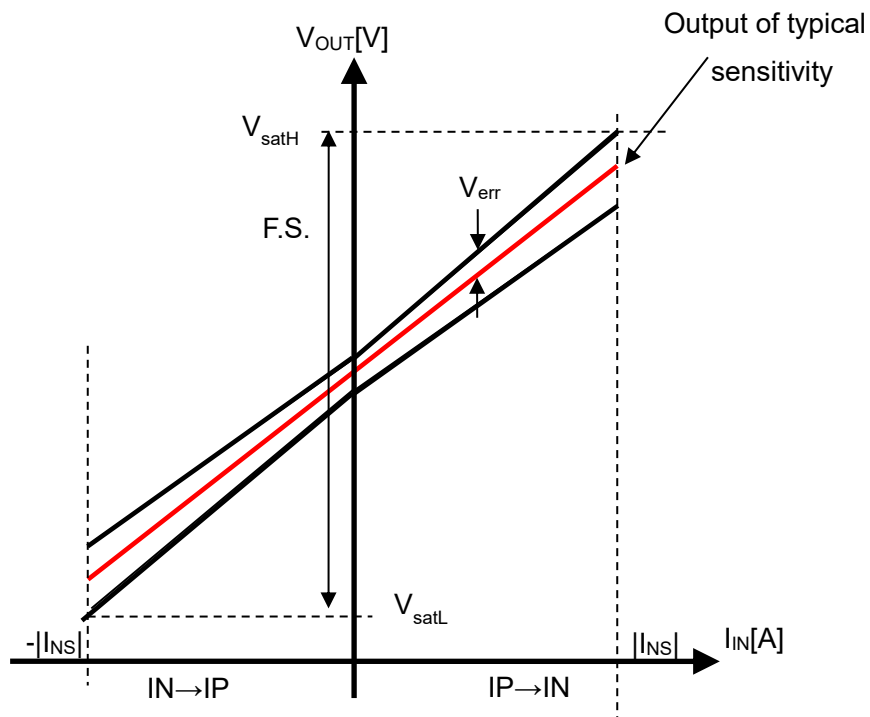

Figure 4. Total Accuracy of CZ-3A06
10.2. Total Accuracy  $E_{total}$  [%F.S.] is defined as below (See Figure 4.)